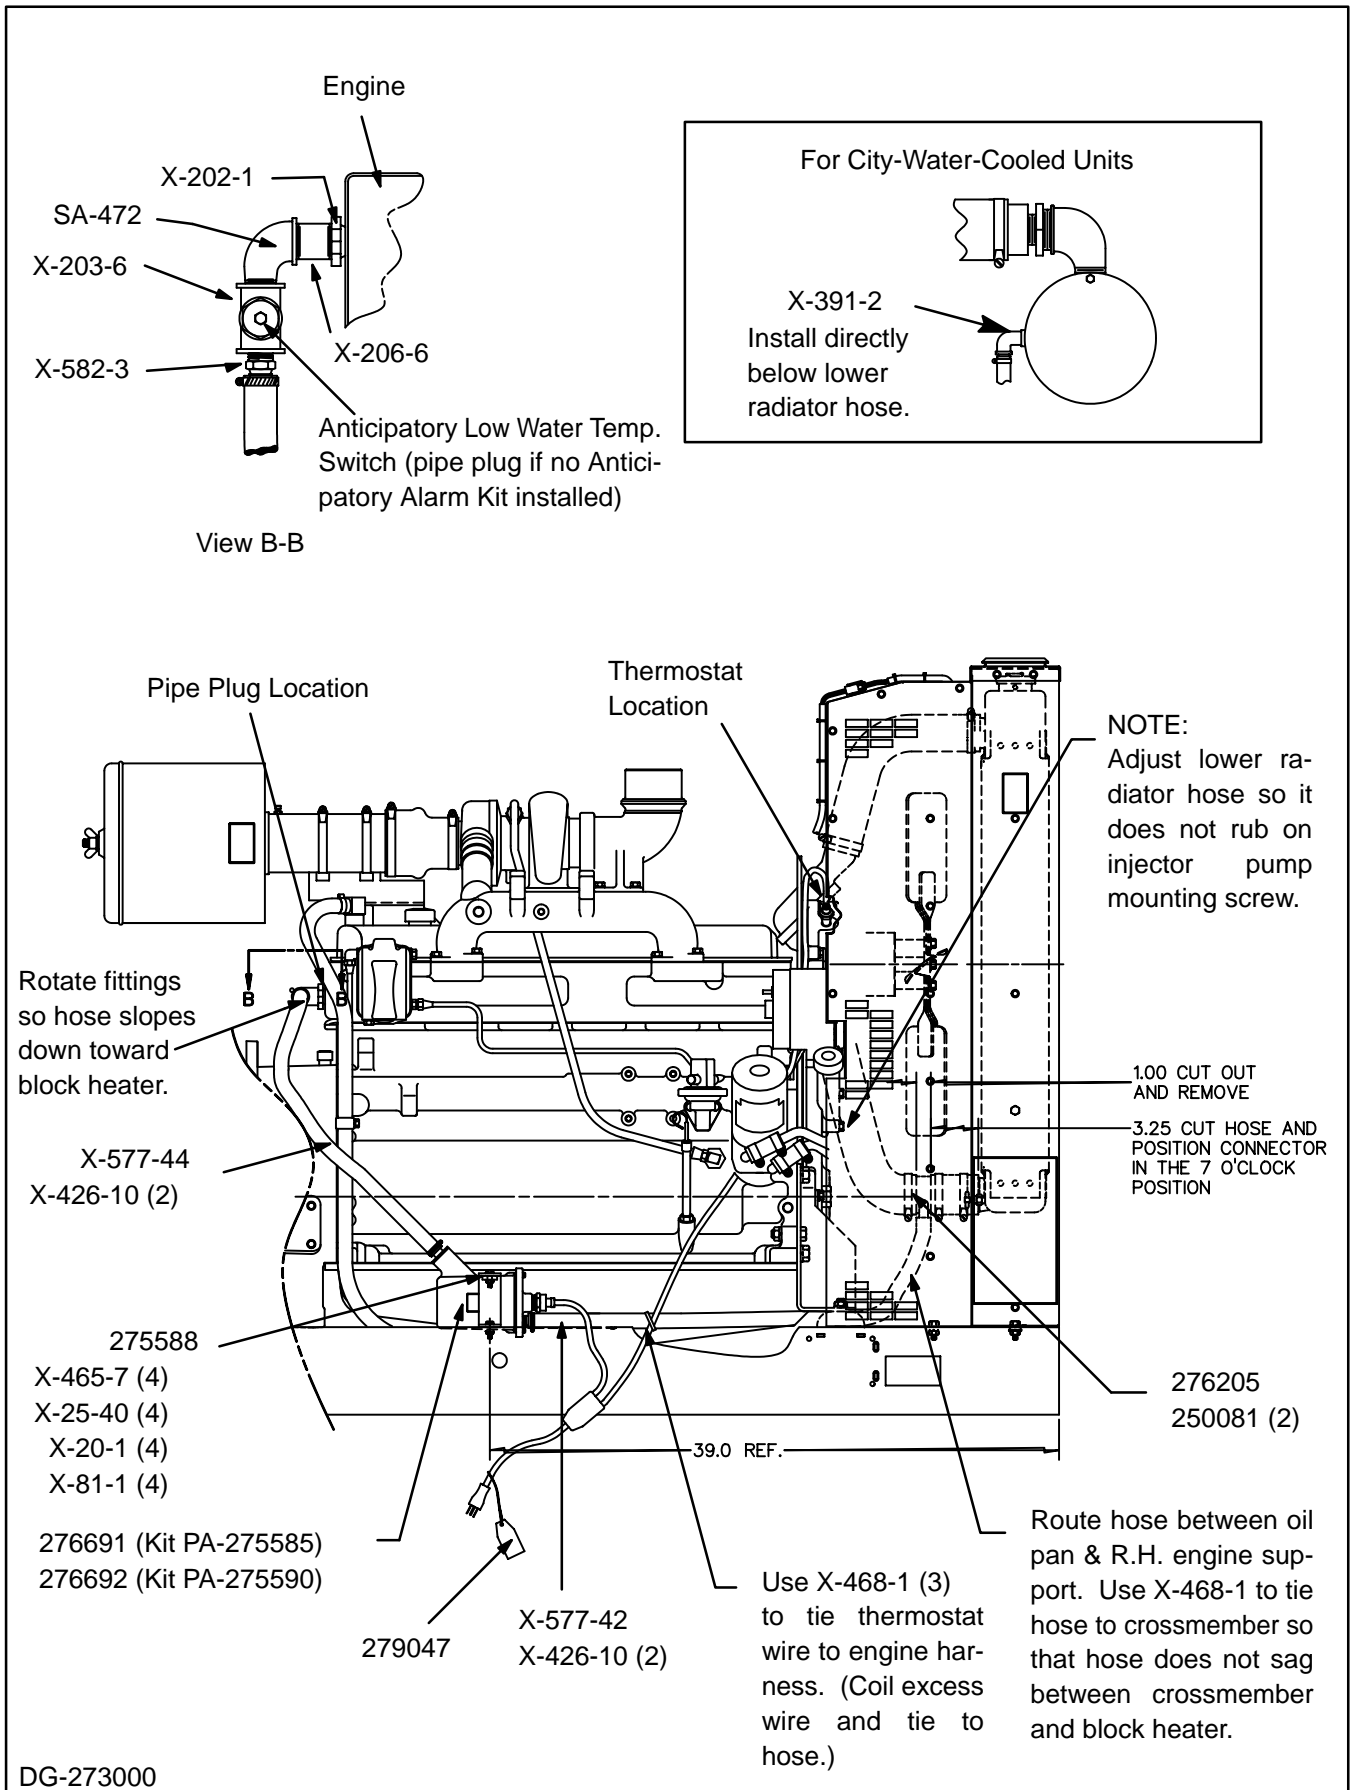

Figure 1. Block Heater Installation (Tank-Type).
3. Remove the pipe plug from the engine water jacket near the starter. Clean hole and remove all burrs. See Figure 1, View B-B for location. Older units might have a High Water Temp. Sender instead of a pipe plug. Remove and save it—it will be reused.
4. Install 3/4 in. reducer bushing X-202-1, pipe nipple X-206-6, elbow SA-472, pipe tee X-203-6, and hose connector X-582-3. See Figure 1, View B-B.
13. If installing the block heater kit on a city-water-cooled unit: Install hose connector X-391-2 directly below the lower radiator hose in the heat exchanger as shown in Figure 1. Locate hose clamp X-426-10 1/4 in. (6 mm) from the end of hose X-577-42 and tighten it to the hose connector. (Items 276205, hose connector, and 250081, hose clamps, will not be used.)
16. Position the thermostat at the location shown in Figure 1 by removing the existing plug.